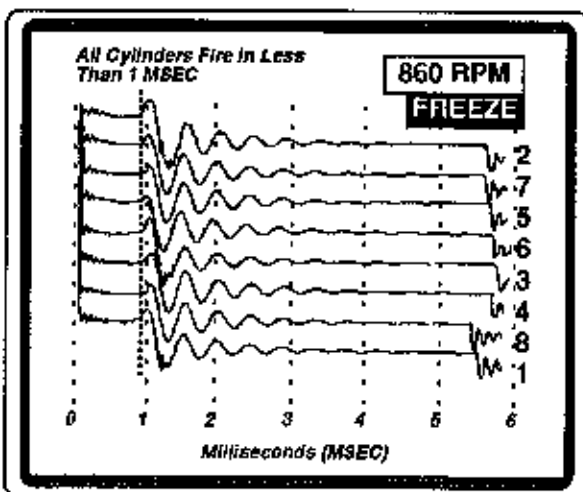

Figure 181
**Short Firing Times (See Figure 181)**